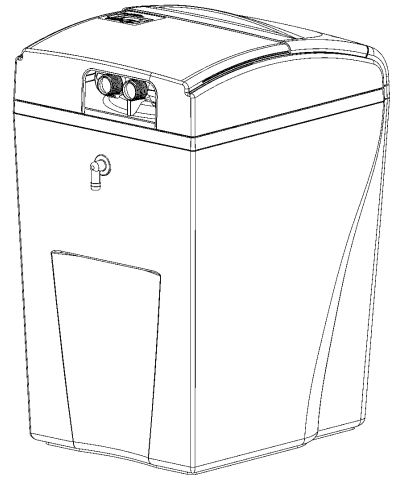

Figure 4: Gravity Overflow Connection
- A. Attach the overflow elbow and check that it is in the down position. (See Figure 4.)